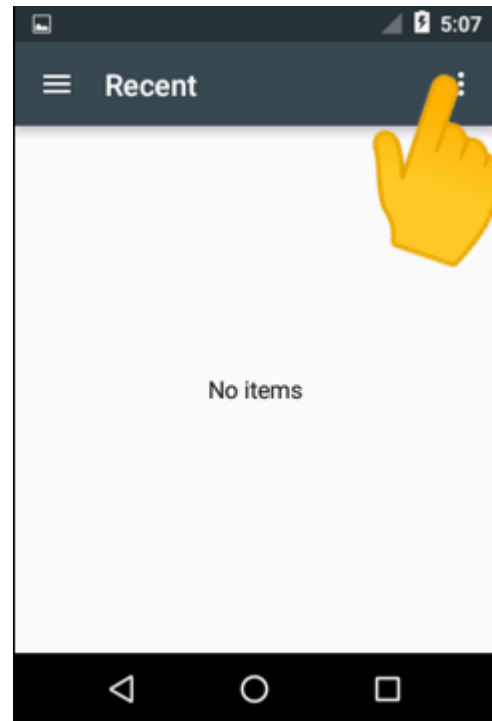

Figure 92: Tap Recent Options Menu
14. Tap the **3 vertical dots** at the top right of the Recent screen (see **Figure 92**).